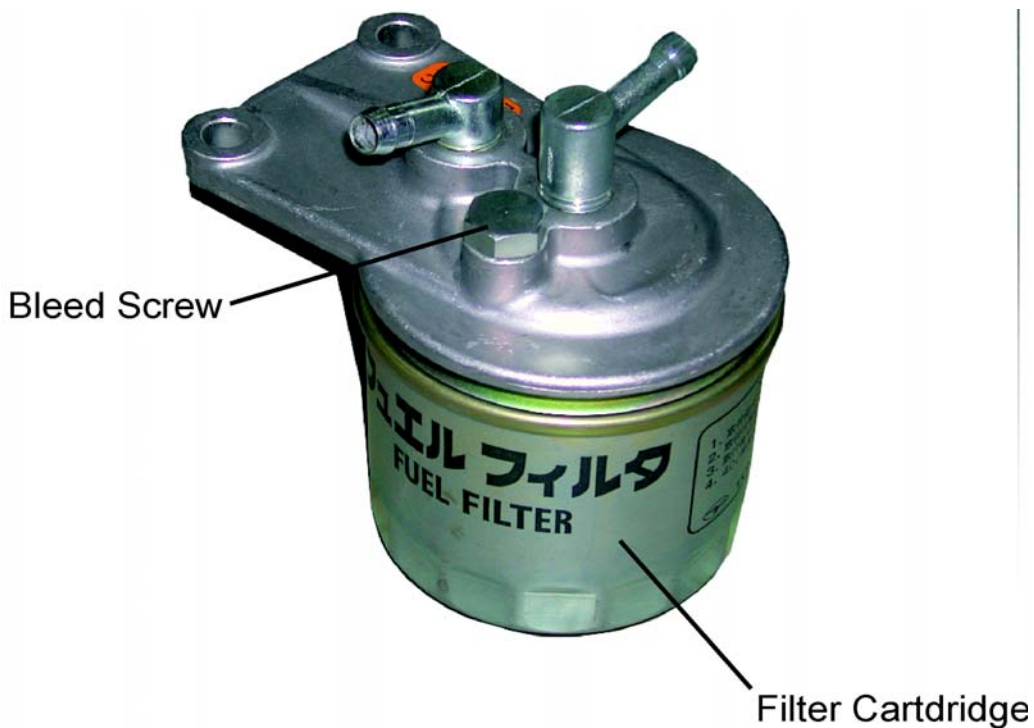

FIG. 2-1
▶ **See Figure 2-1. Replace the primary fuel filter and prefilter cartridge every 200 hours.** After replacing any of the two filter cartridges, loosen the air bleed screw on the main filter and turn the key switch on the control panel to #1 position and wait until fuel begins to flow from the valve and is free of air bubbles. Turn the key to #0 position. Tighten the bleed screw.